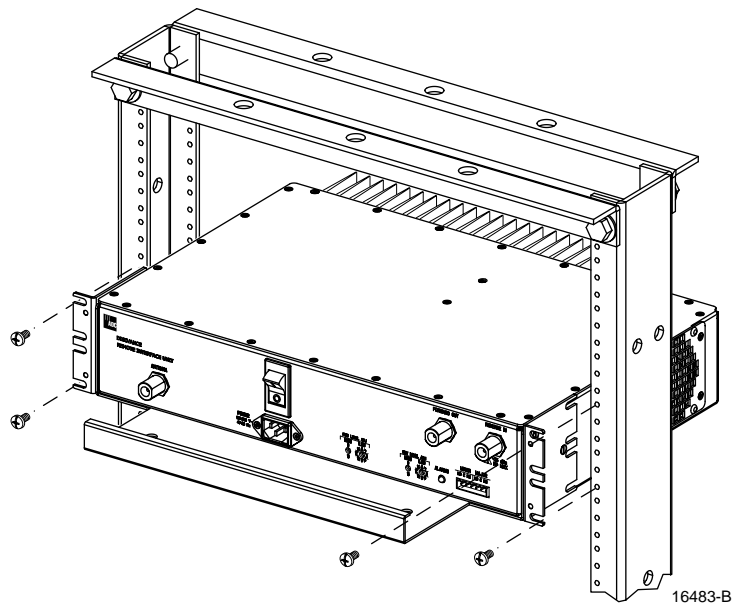

Figure 5. RIU Rack Mount Installation
4. Position the RIU in the designated mounting space in the rack (per system design) and then secure the mounting brackets to the rack using the four machine screws provided (use #12-24 screws or M6 x 10 screws, whichever is appropriate) as shown in Figure 5.